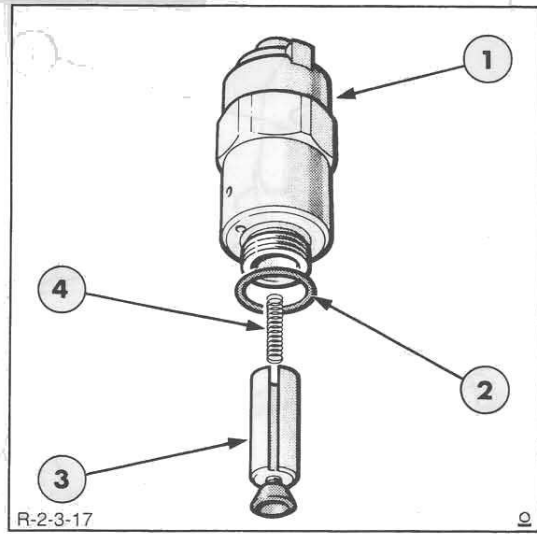

Figure 20
1. Remove the solenoid from the hydraulic head complete with plunger and spring, Figure 20. Discard the rubber 'O' ring from the solenoid.